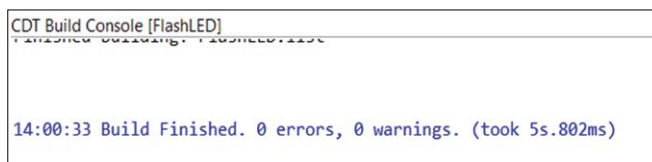

Figure 5.12: Checking if there are errors.
- Look at the bottom of the screen and make sure that there are no errors (see Figure 5.12).